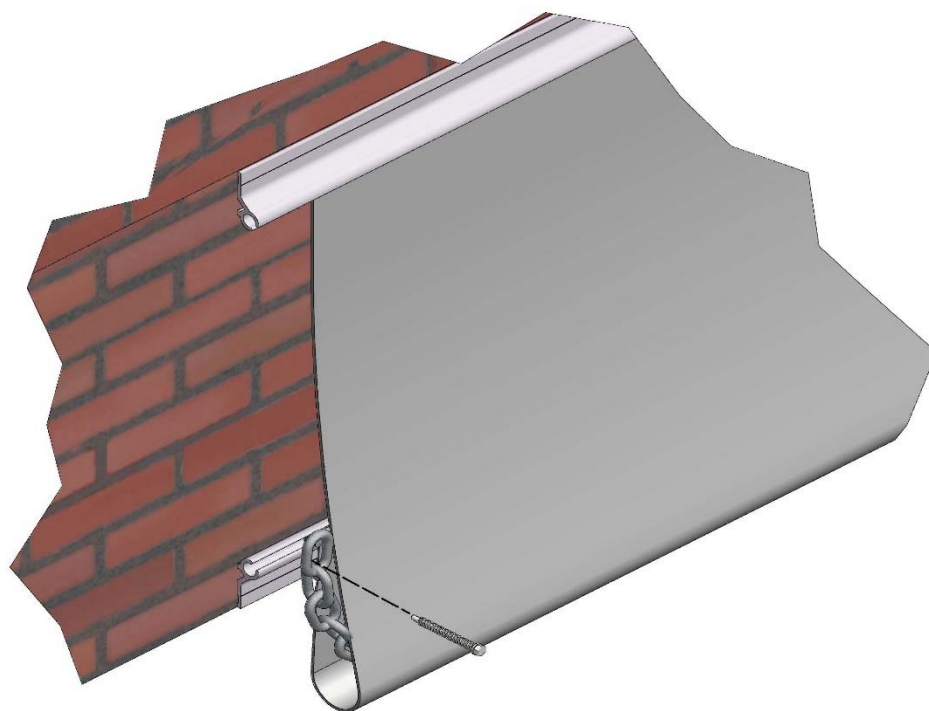

*Figure 22*
8.1 Overview: With the flutes facing each other fix Aluminium Profile (PB1) to building with M5.5 x 50 Screws (PE1) at 1m centres. Align the upper section with the top of the Tracking and the lower section to the top of the door opening (Figure 22). To allow the Panel (PA1) to be fed into the Profile do not secure the last 2m.